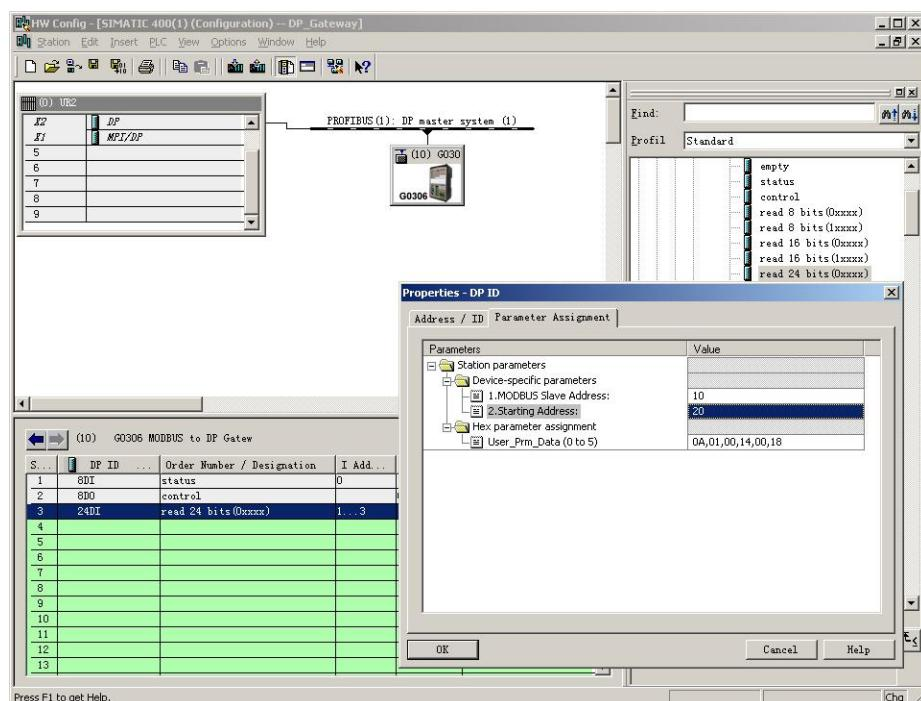

Figure 17 Configuration of“read 24 bits(0xxxx)” Module User Parameter
b) Configuration of “read 24 bits(0xxxx)” module user arameter, shown as Figure 17:
“1.MODBUS Slave Address:” \Rightarrow type MODBUS slave address 10, as shown in Figure 17
“2.Starting Address:” \Rightarrow type will-read coil 0xxxx starting address 00021, set the address as 20 \Rightarrow “OK”, shown as Figure 17.